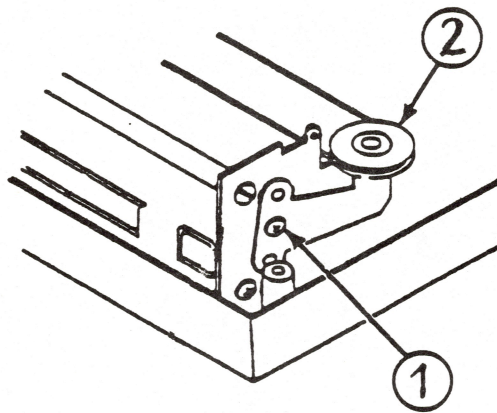

FIGURE 6
15. Loosen the screw on the tension arm (see Figure 6, #1).
16. Slip off the wire from the idler pulley (see Figure 6, #2).